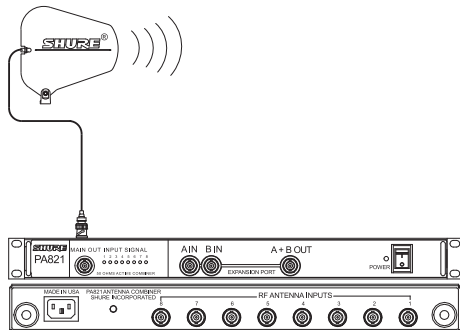

FIGURE 1
2. Attach an antenna to the **MAIN OUT** of PA821. For wideband applications, use PA805 directional antenna (Figure 1).
NOTE: When the PA821 is powered on, the input signal indicators (1-8) on the front panel will illuminate if an active transmitter is connected to the corresponding input (1-8) on the back panel (Figure 1).